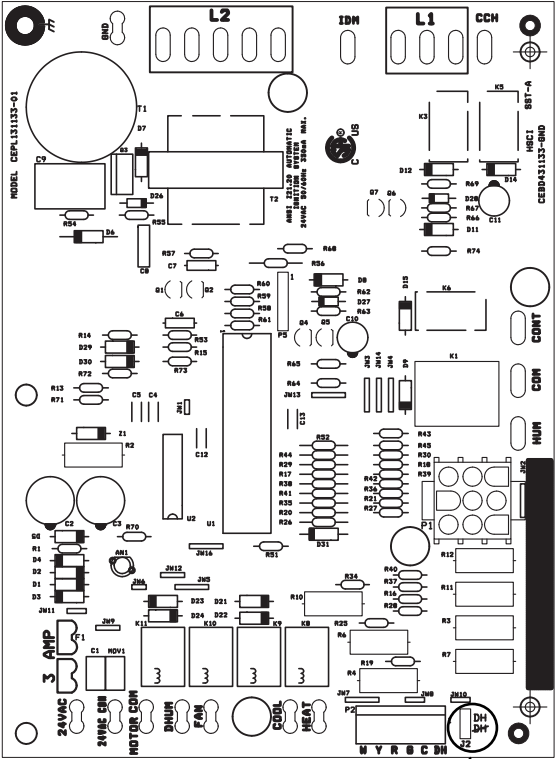
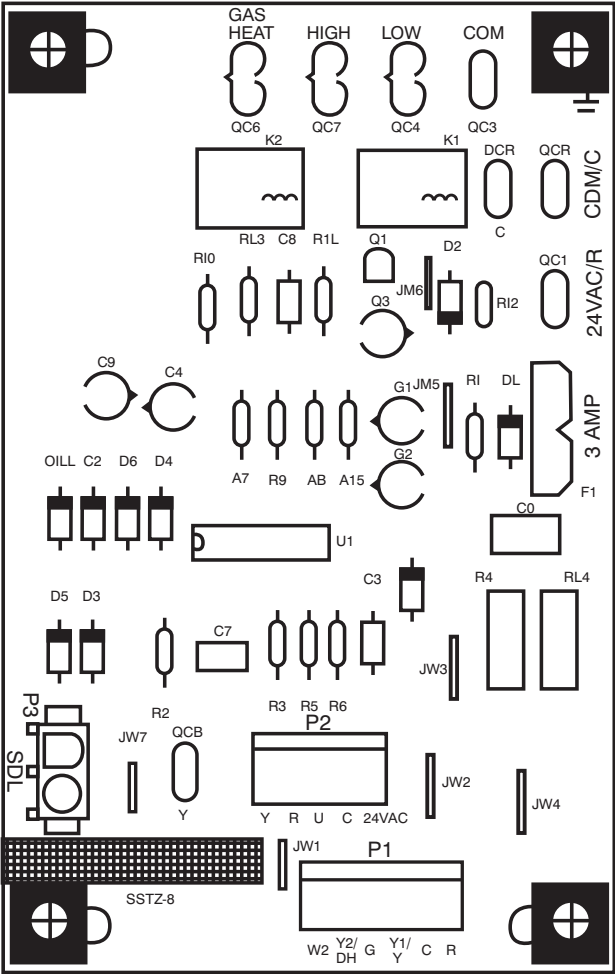

Fig. 17 - Single Phase IGC Board
Fig. 18 - Interface Fan Board (IFB)
This unit is factory-set for use with a single cooling fan speed. For single phase models, the cooling speed is marked “COOL” on the IGC (See Fig. 17). For 3-phase models, the cooling speed is marked “LOW” on the interface board (IFB)(See Fig. 18). The factory-shipped settings are noted in Tables 10 and 11. There are up to 3 additional speed tap wires available for use in either gas heating mode, cooling mode, or continuous fan mode (For color coding on the indoor fan motor leads, see Table 8). For single phase models, one of the additional speed tap wires is connected to the continuous fan, with the other 2 wires shipped loose in the control box near the IGC. For three phase models, the additional 3 speed tap wires are shipped loose with vinyl caps and are located in the control box near the interface fan board (IFB) (See Fig. 18).
2. Remove the current speed tap wire from the “GAS HEAT” terminal on the interface fan board (IFB) (Fig.18) and place vinyl cap over the connector on the wire.
2. Remove the current speed tap wire from the “LOW” terminal on the interface fan board (IFB) (See Fig. 18) and place vinyl cap over the connector on the wire.
1. Move shunt jumper on IGD board to “DH” (See Fig. 17).
1. Remove fan speed tap wire from the “LOW” terminal on the interface fan board (IFB) (See Fig. 18).
When the DEHUM feature is not used, the continuous fan speed will be the same as cooling fan speed. When the DEHUM feature is used, the continuous fan will operate on IFB “LOW” speed when the DH control lead is not energized, or IFB “HIGH” speed when the DH lead is energized (see Fig. 18).